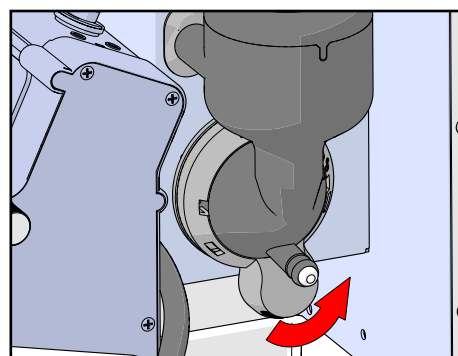

Figure 48.
5. Turn the mixer ring counter-clockwise to the unlock position (see Figure 48).